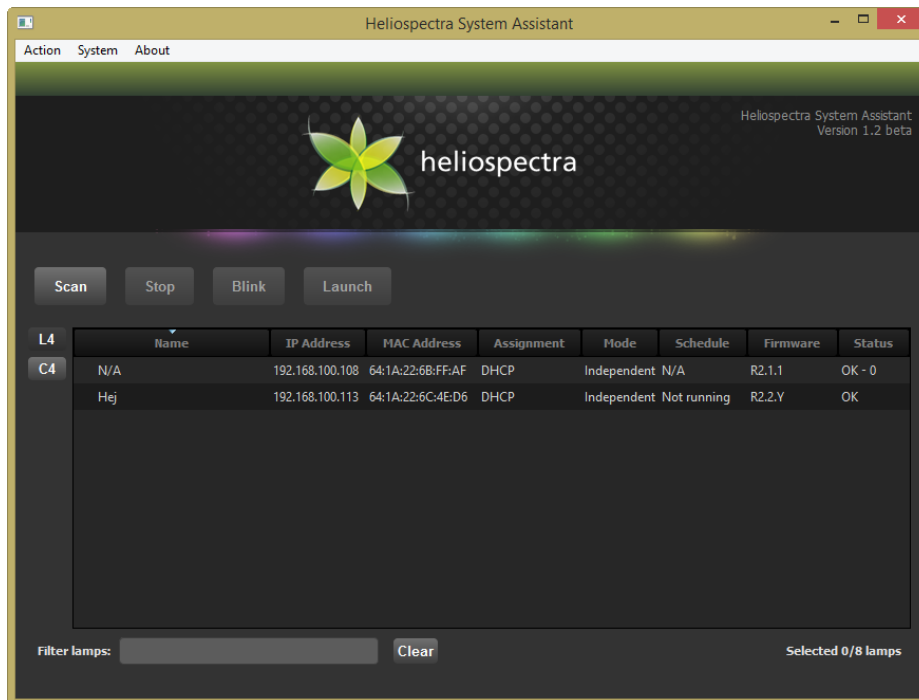

Figure 5 Heliospectra System Assistant Main Window
Figure 5 Heliospectra System Assistant Main Window provides an overview of the main window of the Heliospectra System Assistant. The main window contains the following general functions and information:
2. Click **Scan**; see *Figure 5 Heliospectra System Assistant Main Window*. A list of available lamps on the network is shown.